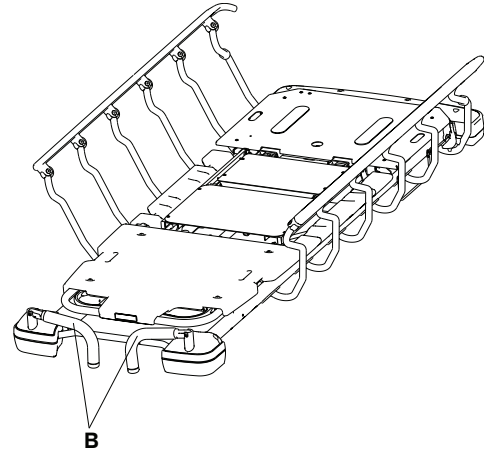

Figure 11 – Stowing the head end push handles
3. Reverse steps to stow the push handles (B) (Figure 11).